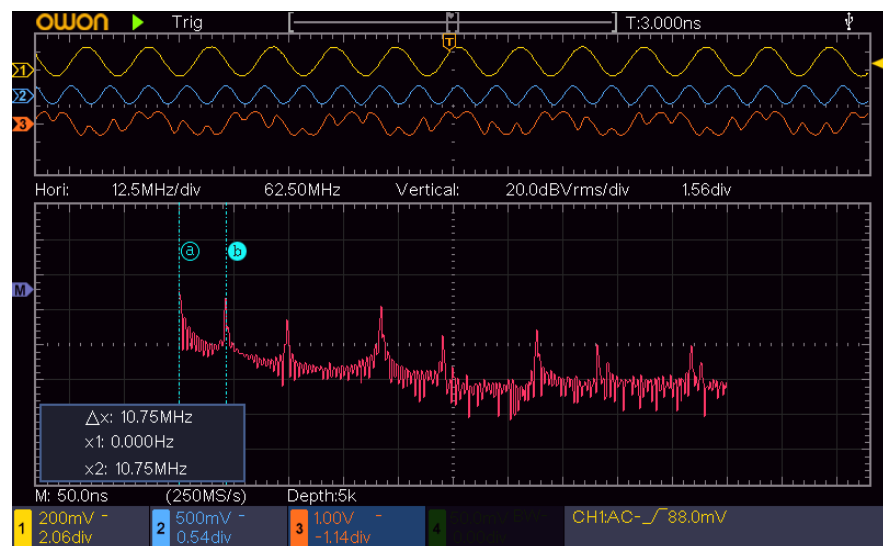
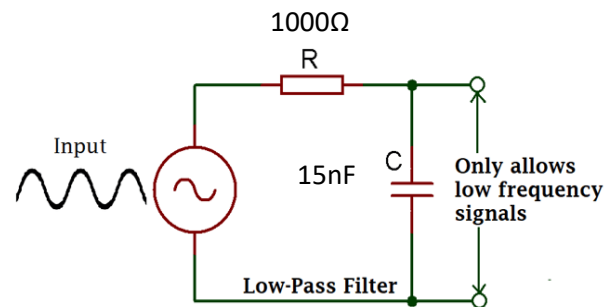

Figure 4: FFT scope function displays the fundamentals, sum, difference, and harmonic frequencies after mixing.
Figure 7: Simple R-C Low-Pass Filter Circuit
Notice the red trace in Figure 4 below. The spikes represent the frequency components that make of the complex orange trace (#3) in the top pane. Without FFT, we would not be able to discern the individual frequencies that make up the orange trace. My blue cursors measured the time between the start of the trace (A) and the first fundamental frequency at point B.
First let's check out the scope's FFT function. Figure 7 shows the 10.7MHz as a spike on the left end of the trace. Compared with Figure 4, you can see how the frequencies *greater* than my IF are reduced to microvolts. Only my desired spike is visible.
Figure 7: After filtering the output of my mixer board with a 10.7MHz ceramic filter only the 10.7MHz is passed through. The other frequencies are attenuated by the 2nd IF transformer (see step 4 above).
- Figure 7 is a simple schematic of the circuit.